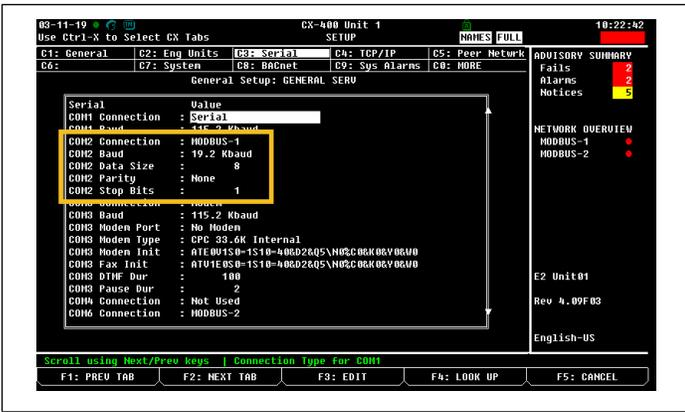

Figure 4-4 - C3:Serial Tab
2. Press **F2** twice to move to **C3: Serial tab** (Figure 4-4).